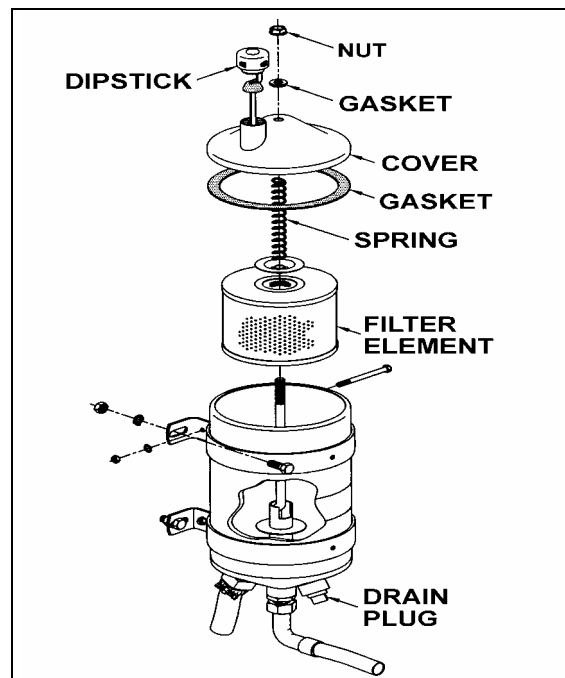

FIGURE 7: POWER STEERING FLUID RESERVOIR
1. Stop engine. Open engine compartment R.H. side door (Fig. 7).